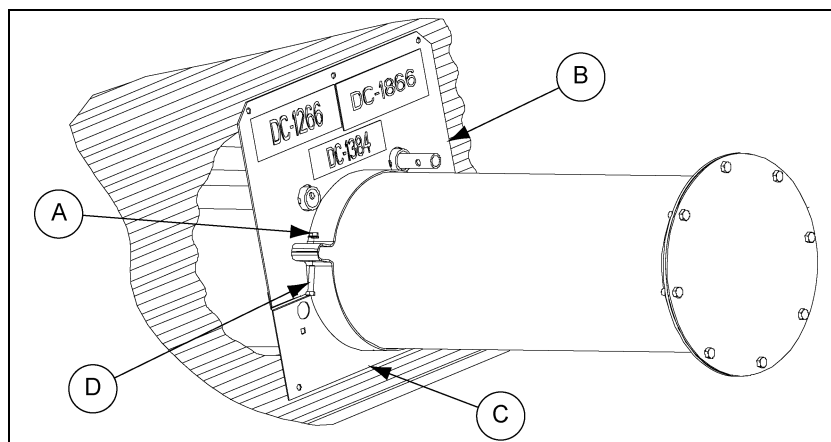

Figure 4P
1. Attach the upper and lower bin flanges (B and C) to the unload tube assembly using two (2) 5/16" x 1-1/2" hex bolts (D) and serrated flange nuts (A). (See Figure 4P.)